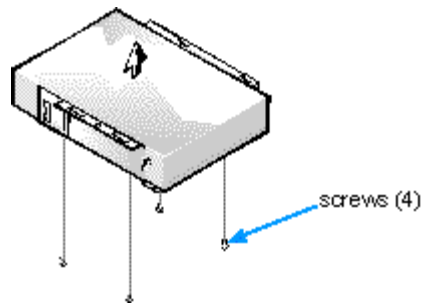

Figure 7-7. Removing the 5.25-Inch Drive Bracket
4. **Lift the 5.25-inch drive bracket straight up and out of the chassis (see Figure 7-7).**
If a drive is already installed in the bay and you are replacing it, be sure to disconnect the DC power cable and interface cable from the back of the drive before removing the drive/bracket assembly. To remove the old drive from the bracket, turn the drive/bracket assembly upside down and unscrew the four screws that secure the drive to the bracket (see Figure 7-7).